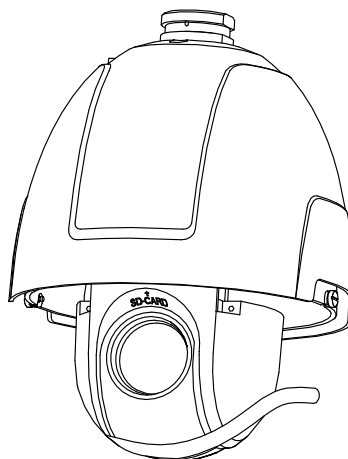

Figure 1-4 Remove the Sticker for Separate 5-inch speed dome
**For Integrated 5-inch speed dome:** Remove the protective foam, sticker and lens cover from the dome drive. As shown in Figure 1-4.